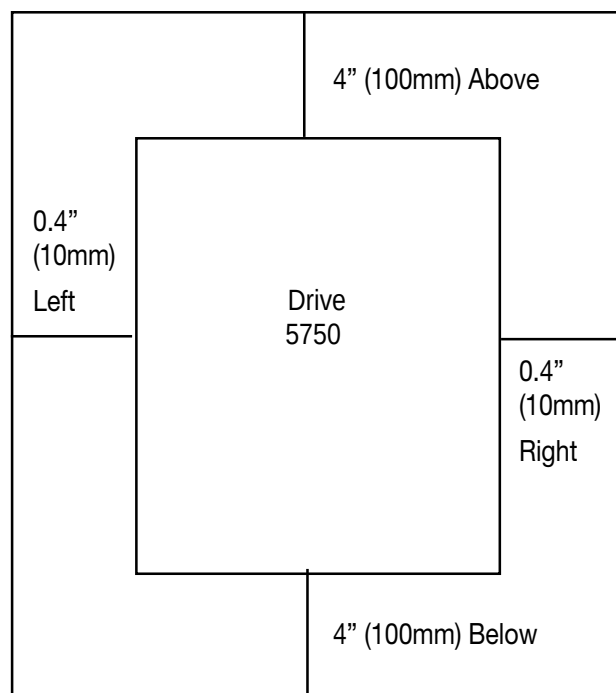

Figure 2-2-1
- (1) Securely mount the drive in the upright position on a rigid structure so that the “5750” characters face front. Avoid mounting the drive upside down or horizontally.
- (2) Allow clearances for cooling as shown in Fig. 2-2-1. This allows the drive, which generates heat during operation, to cool. The generated heat is radiated upward. Do not install the drive below a heat sensitive device.
- (3) The temperature of the heat sink rises to about 90 degrees C during operation of the drive. Mount the drive on a base made of a material able to withstand the temperature rise.